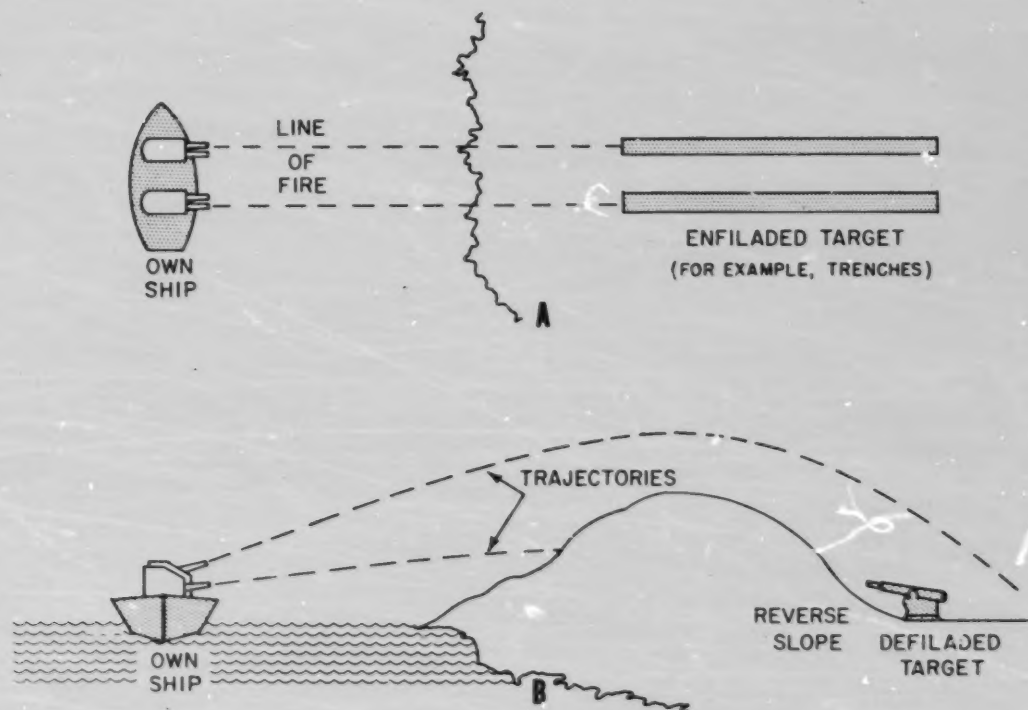

Figure 12-22.—Types of target.
c. **DEFILADE FIRE (reverse-slope fire).** Gunfire delivered on targets located behind some terrain feature, such as a hill or ridge, which masks the target (fig. 12-22, part B).
the fall of shot coincides with the long axis of the target (fig. 12-22, part A).
5. **SMALL DEFLECTION PATTERN.** The comparatively small dispersion of deflection of naval guns makes them valuable for close support of troops when the line of fire can be made parallel to the troops' front line (enfilade fire, (fig. 12-22, part A).